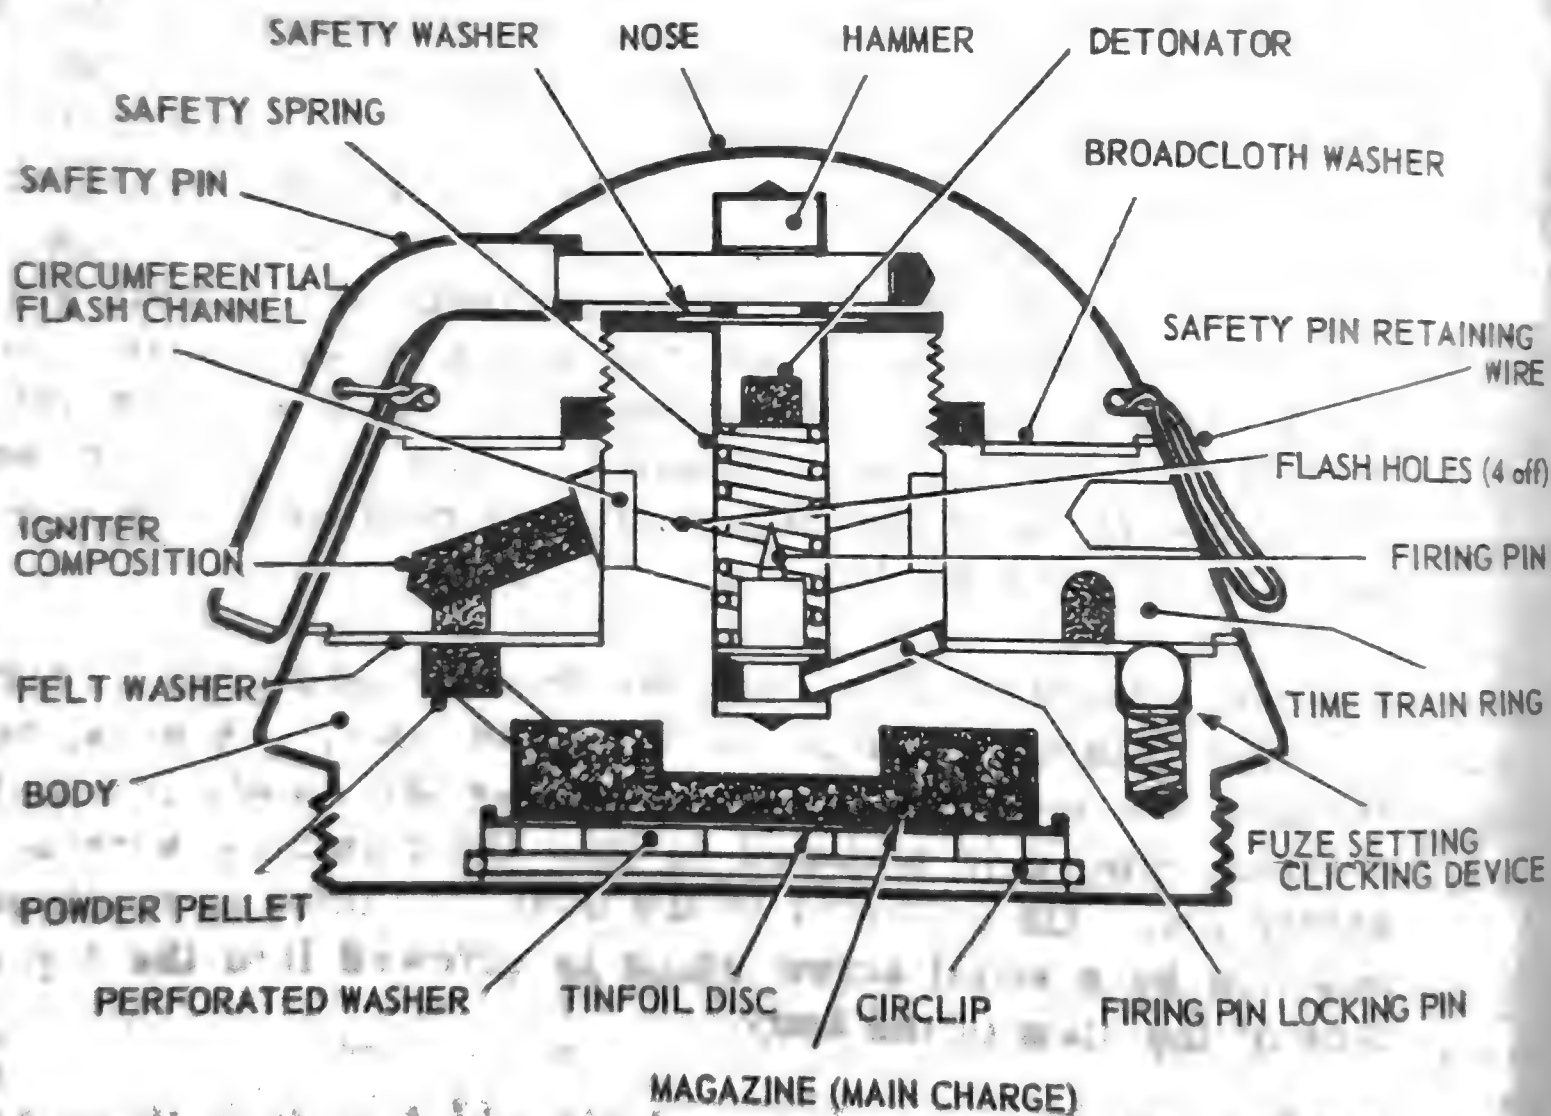

Fig 40 Fuse, Time, L77 (Swedish design)
99. *Fuze, Nose, Time, L77A1 (Fig 40).* This is a simple time fuze of Swedish manufacture which consists, principally, of a body, time-train ring, nose, hammer, safety spring, firing pin, safety pins and explosive elements.